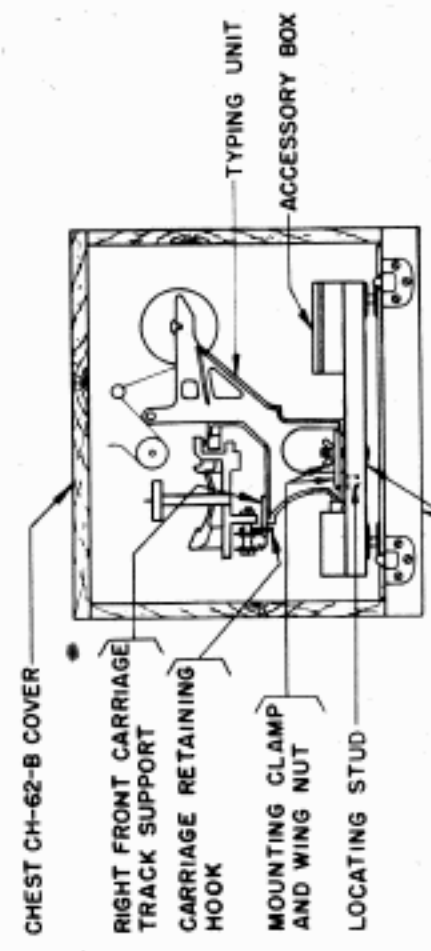

FIGURE 4.
2. REMOVE PLATEN CRANK FROM PLATEN SHAFT AND PLACE IN ACCESSORY BOX ON CHEST CH-62-B BASE SHOWN IN FIGURE 4.
4. PLACE TYPING UNIT ON CHEST CH-62-B BASE AS SHOWN IN FIGURE 4 AFTER MOVING MOUNTING CLAMPS TO ONE SIDE. THEN POSITION CLAMPS ON FEET OF PRINTER AND TIGHTEN WING NUTS. (IMPORTANT: POSITION THE STUDS ON THE TWO SHORT CLAMPS IN PROPER LOCATING HOLES BEFORE TIGHTENING.)
5. PRESS CARRIAGE RETURN LOCK BAR BUTTON (AT LEFT REAR OF TYPING UNIT) TO POSITION CARRIAGE IN ITS LEFT HAND POSITION. HOOK THE LARGE END OF THE "S" SHAPED HOOK ON THE LEFT CARRIAGE ROLLER MOUNTING STUD FROM UNDER SIDE. PRESS THE CARRIAGE RETURN LOCK BAR BUTTON AGAIN AND AT THE SAME TIME MOVE THE CARRIAGE TO THE RIGHT UNTIL THE SMALL END OF HOOK ENGAGES THE LEFT FRONT CARRIAGE TRACK SUPPORT. HOLD CARRIAGE IN THIS POSITION AND HOOK THE LARGE END OF THE OTHER HOOK ON THE RIGHT CARRIAGE ROLLER MOUNTING STUD AND PRESS DOWN ON OTHER END UNTIL HOOK SNAPS INTO PLACE ON THE RIGHT FRONT CARRIAGE TRACK SUPPORT AS SHOWN IN FIGURE 4.